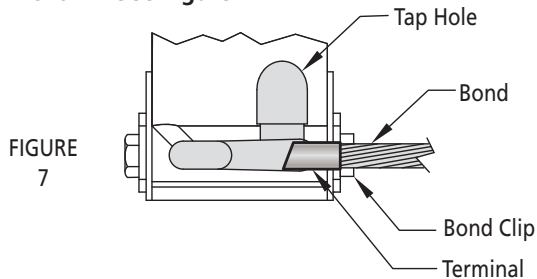

FIGURE 7
1. Place bond in welder with flat surface against rail head and end of terminal against bond clip. This correctly positions bond in weld cavity. Be sure the bond clip is in good condition and properly positions terminal under center of tap hole as shown. **See Figure 7.**